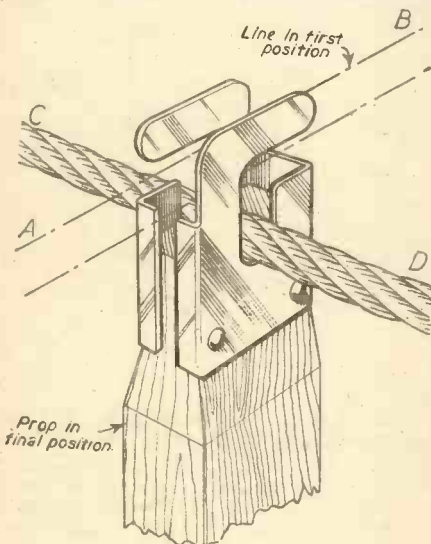

Fig. 1—The novel clothes-prop head.
The method of using the device is shown in Fig. 1. Place the prop under line (AB) until line is lying as far down as possible between the two tongues. Then turn in a right-hand direction, when the line will take up position CD in the bottom of the slot: it will be lying along the slot already cut in the top of the wooden part of the prop.